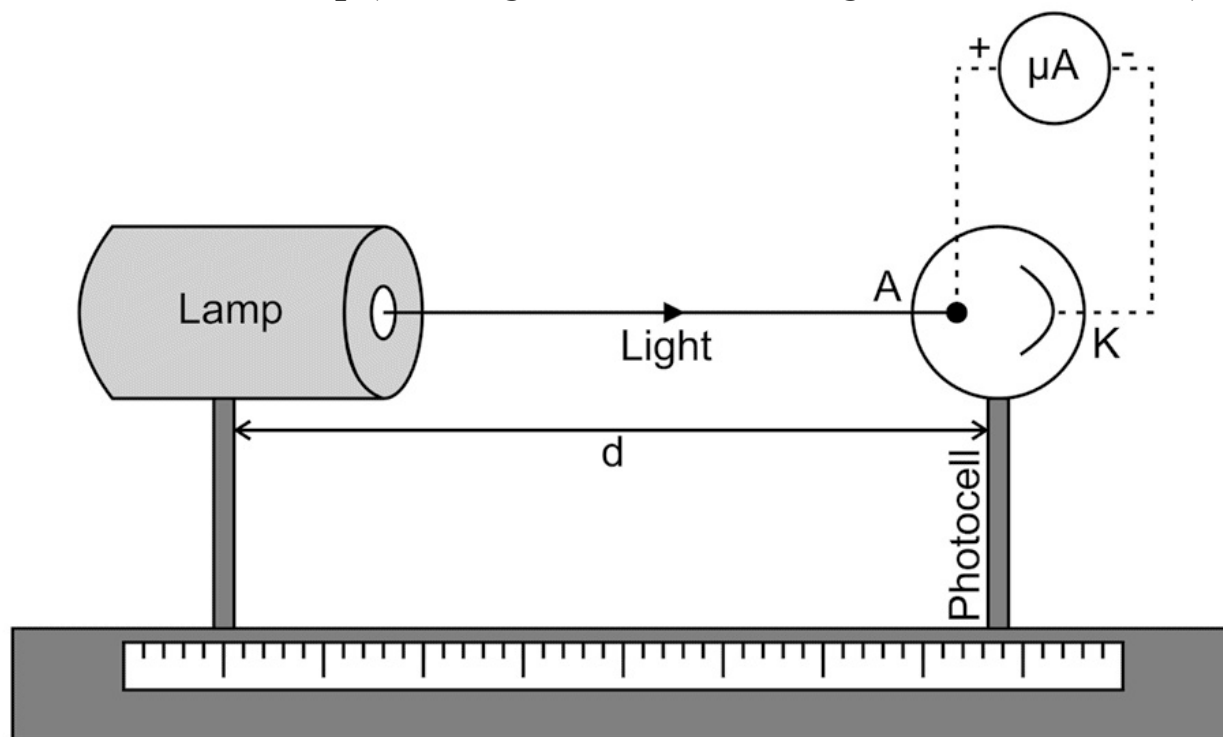

Fig P15.1
1. Connect the circuit as shown in Fig. P15.1
7. Plot a graph of current (I) Vs $1/d^2$